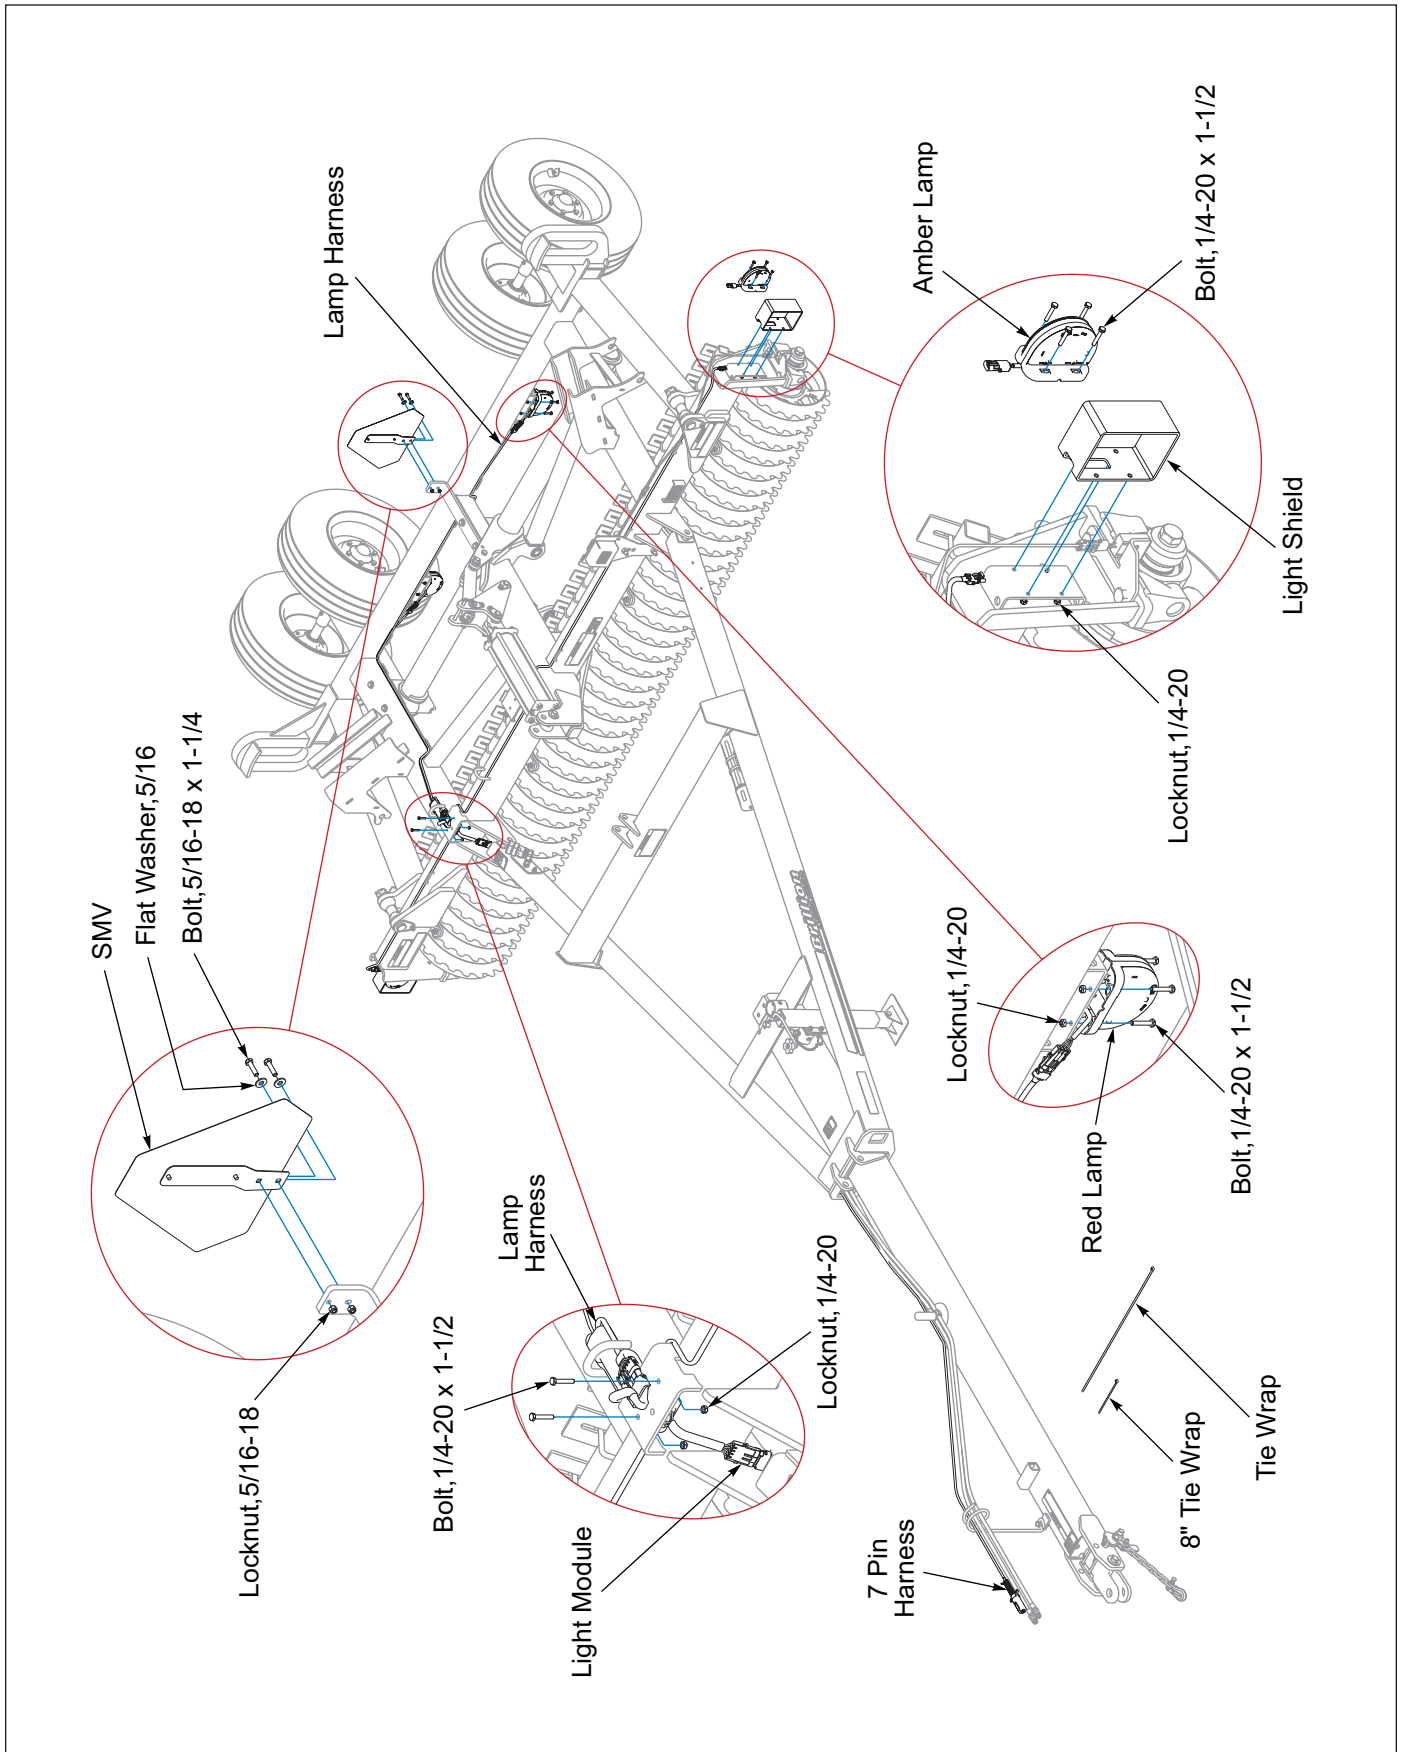

Figure 2-22: Warning Lamp Installation
1. Attach Red Lamps to Frame Light Brackets located under the Rear Center Frame Tube, using 1/4-20 x 1-1/2 Bolts and Locknuts. Ensure the Red Lens is rear facing. **See Figure 2-22.**